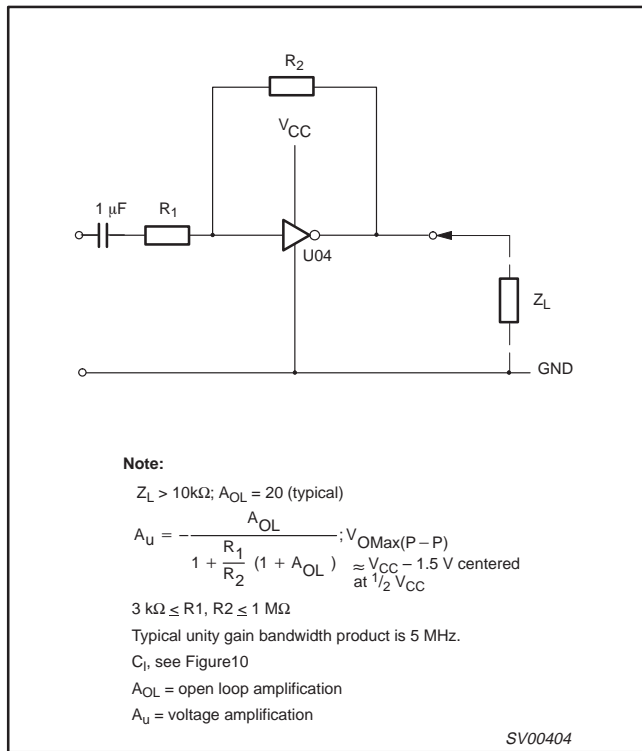

Figure 4. LVU04 used as a linear amplifier.
- Linear amplifier (see Figure 4)
Note to Figure 4